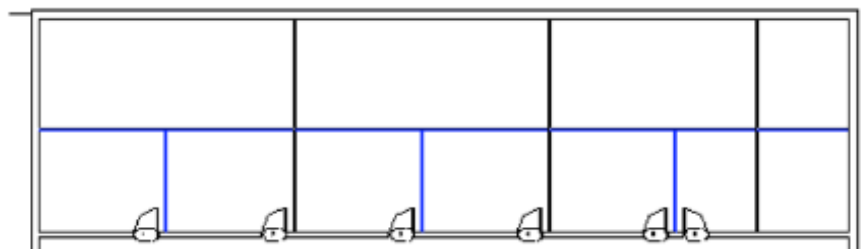

Figure 2-73
- Select every other wall **BELOW** the new wall. (Remember, you select the elements that you want to keep.) The walls should display as shown in Figure 2-73.